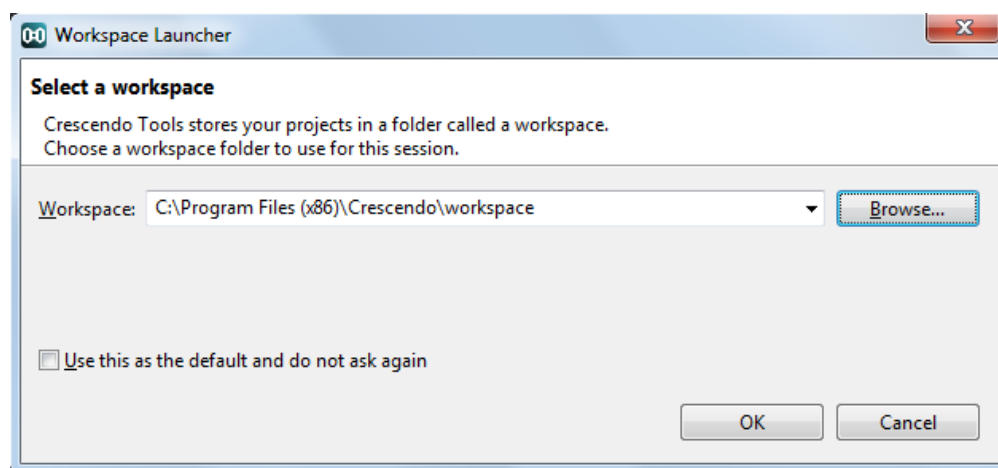

Figure 4.1: The Crescendo Workspace Location Screen.
- **Open Crescendo** from the **start menu**. You will see a splash screen when the program opens and a dialog prompting you to give a location for the workspace as in Figure 4.1.